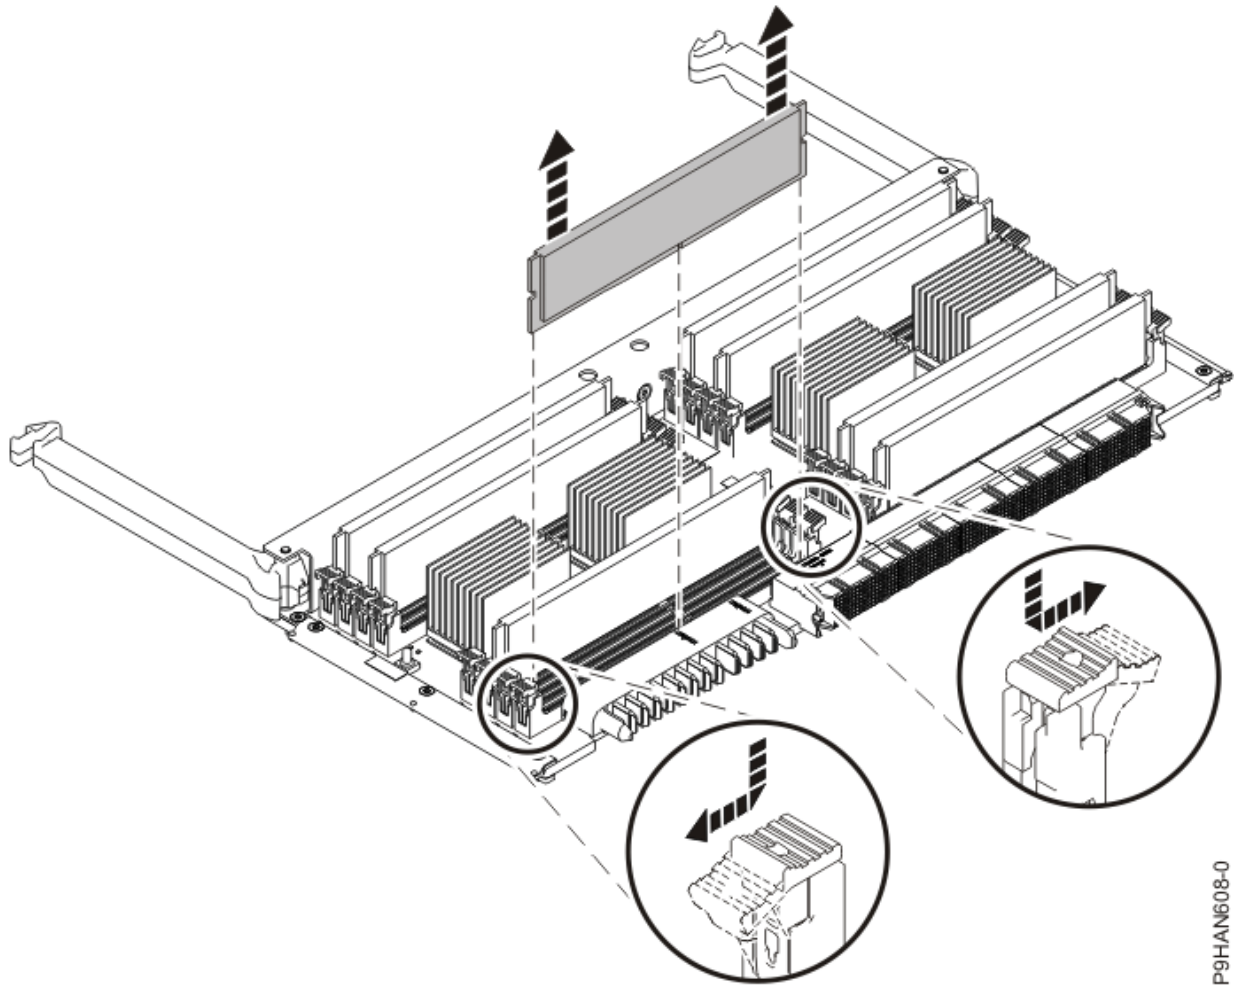

Figure 176: Removing a memory module
3. To unlock the memory module from its connector, simultaneously push both of the locking tabs away from the module in the direction that is shown in Figure 176 on page 203.